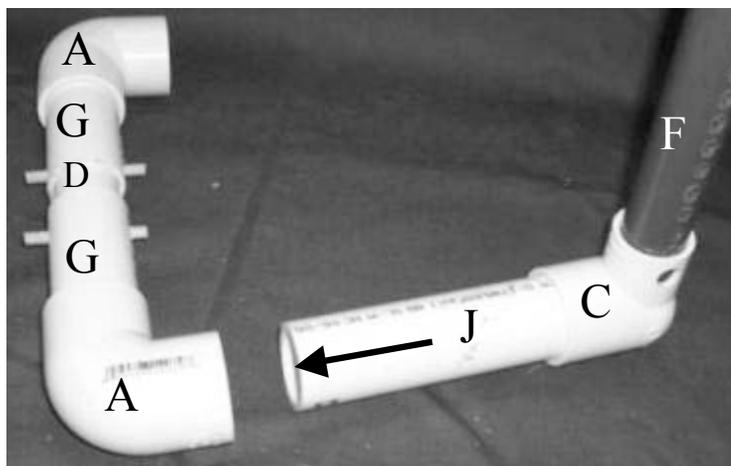

FIGURE 21 – Step 16 – Joining Side Frame to Rear Frame.
**Step 17.** Repeat Step 15 for the opposite side (Figure 21).